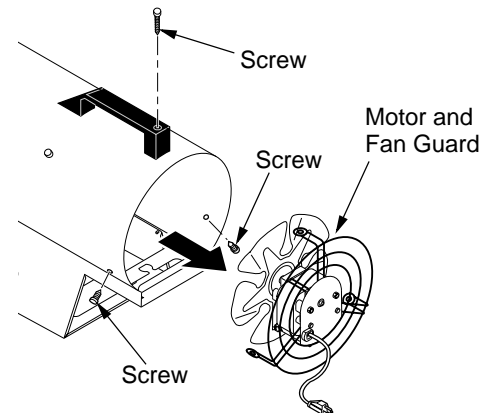

Figure 9 - Removing Motor and Fan Guard from Heater
2. Remove motor and fan guard from heater shell (see Figure 9).
2. Remove motor and fan guard from heater shell (see Figure 9, page 6).